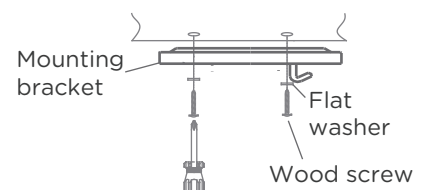

Fig. 1b
- Drill two mounting holes in the ceiling joist. Securely attach the mounting bracket to the ceiling or wooden ceiling as indicated below (Fig. 1b).